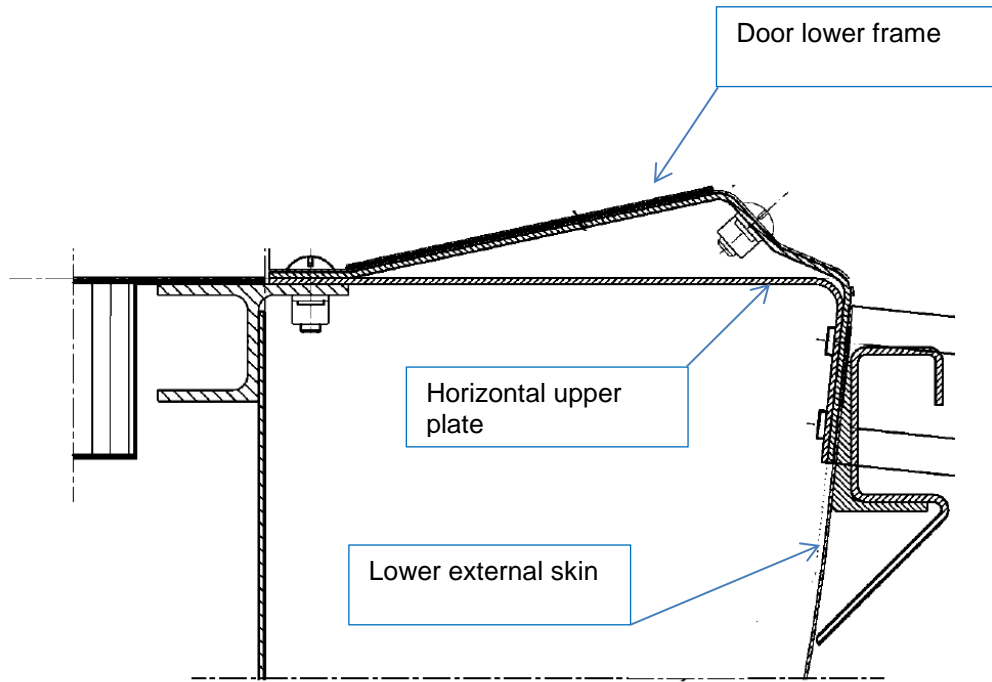

Figure A-5
- 1.1 joint between the lower frame of pax door and lower external skin (joint includes also the horizontal upper plate but sealant is needed only between external skin and pax door frame) - see Figure A-5.